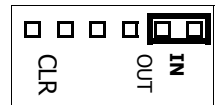

Fig. 2: "IN" Position
3. Move the MEMORY BACKUP CELL jumper J4 to the IN position to remove power from the static RAM, thus making installation safer for the memory components (see Fig. 2).
Note: Be sure the MEMORY BACKUP CELL jumper is in the IN position to provide memory data retention (see Fig. 2)..